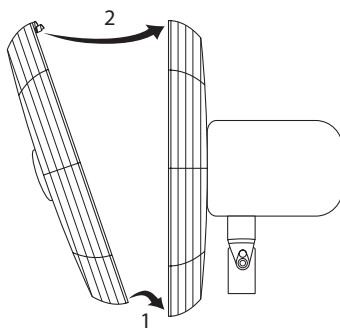

FIGURE 10
22. With the Hunter logo facing forward and upright, engage the tabs on the lower part of the Front Grille into the rim of the Back Grille, as shown in Figure 10, arrow 1. Then, move the top of the Front Grille as shown in Figure 10, arrow 2, so that the tab at the top of the Front Grille snaps under the rim of the Back Grille.